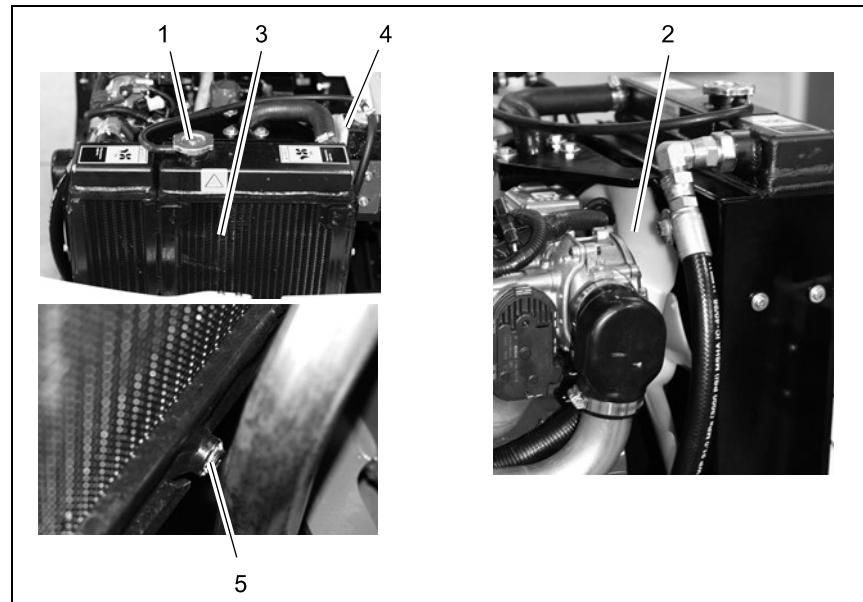

Fig.16
The coolant in the radiator (Fig. 16/3) is cooled by a fan (Fig. 16/2). If the coolant temperature is too high, it is indicated on the main operating panel.
Check the radiator (Fig. 16/3) daily and clean as necessary. Dirt on the radiator ribs reduces the cooling capacity.
1. When the engine has cooled down, open the cap (Fig. 16/1) carefully.
2. Check the coolant level. The compensation tank (Fig. 16/4) should be filled by approx. 1/3 when the engine is cold. Fill slowly, if necessary.
1. Place an appropriate collecting vessel under the drain plug (Fig. 16/5) of the radiator.